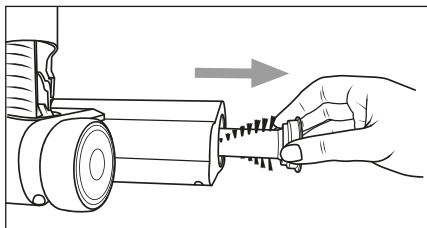

Fig. 23
- 3) Pull the rotary brush ⑱ out of the floor brush ㉓ (see Fig. 23).